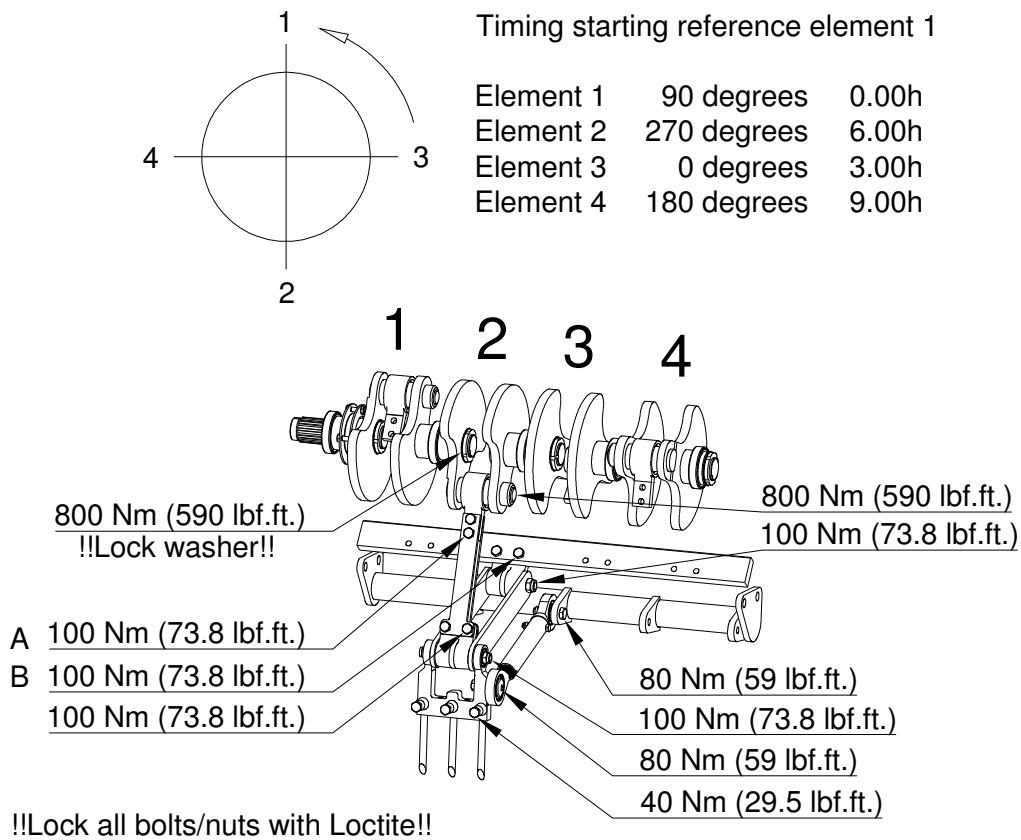

Fig. 22
1. Remove the big-end pin (8) and nut (9) on both sides of the crank bearing (5) so that both crank elements (3 & 6) become loose.
4. Remove the two spacers (4).
5. Remove the profile shaft (7) with bearing (5).
6. Remove the bearing (5) of the profile shaft (7).
- @ Use Loctite for nuts (2 & 9). Tighten the nuts with the moment that is shown in fig. 22.
Figure 22 shows the torque values for the most important bolts/nuts of the Verti-Drain® unit. The bolts and nuts for which no values are given must be tightened with the same torque as similar bolts and nuts. When bolts and nuts come loose, Loctite may be used to prevent this from occurring again.
If an element is no longer in line with the adjacent elements, the alignment can be corrected as follows: (see fig. 22)
Figure 22 shows the timing of the crank elements. The timing is important because it will determine the order in which the tines will go into the ground. The timing will, therefore, determine the stability of the Verti-Drain® unit. It is, therefore, important that when a component of the crankshaft is replaced that the timing is again the same as in the old situation.